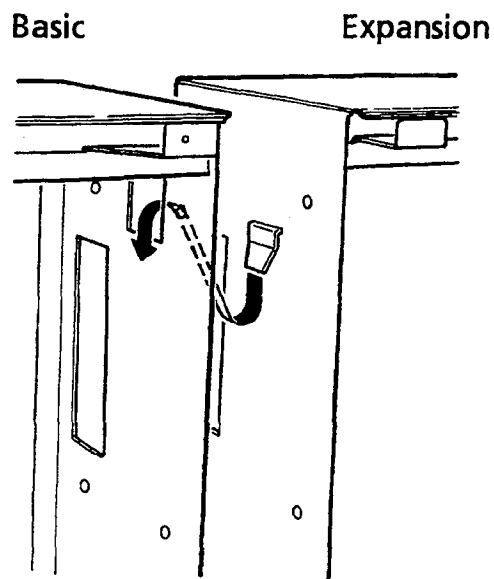

Figure 3-21 Hooking the Level II Basic and Expansion KSUs Together
2. Lift the Expansion KSU and attach it to the Basic KSU by placing the hook through the slot. Refer to Figure 3-21 - Hooking the Level II Basic and Expansion KSUs Together.